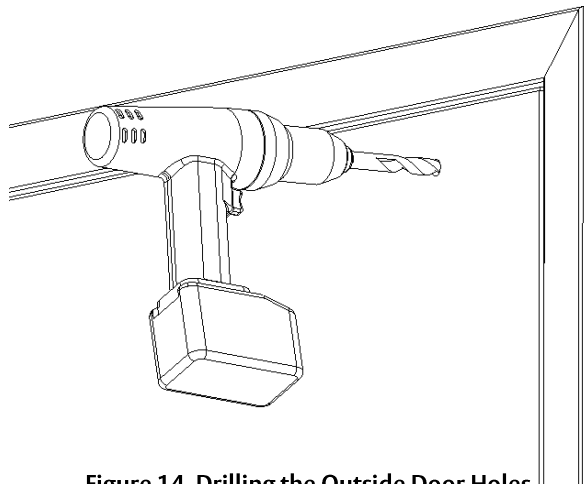

Figure 14. Drilling the Outside Door Holes
10. DRILL four (4) #36 (0.107”) x 1/2” deep holes for the strike plate housing anchor screws.
11. For a **Hollow Metal Door**, DRILL out the 3/8” diameter strike mounting hole to 1/2” diameter in the outer wall only (see Figure 14, “Drilling the Outside Door Holes”).